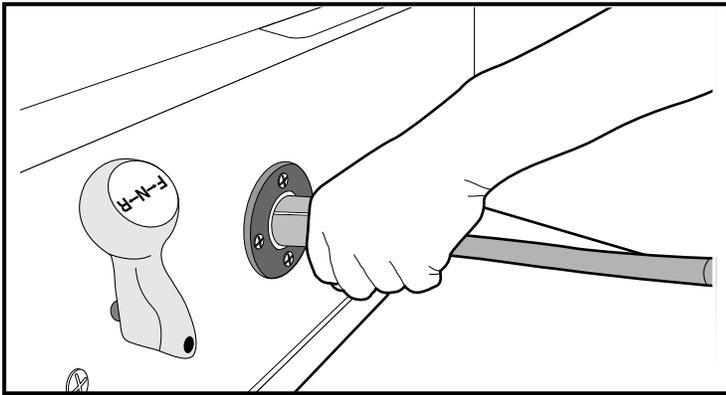

Figure 14-4 Charger Receptacle
2. Connect the charger DC plug to the vehicle charger receptacle located on the seat support panel near the driver's knee (**Figure 14-4, Page 14-6**). The charger will activate automatically within 2 to 15 seconds after the DC plug is connected.